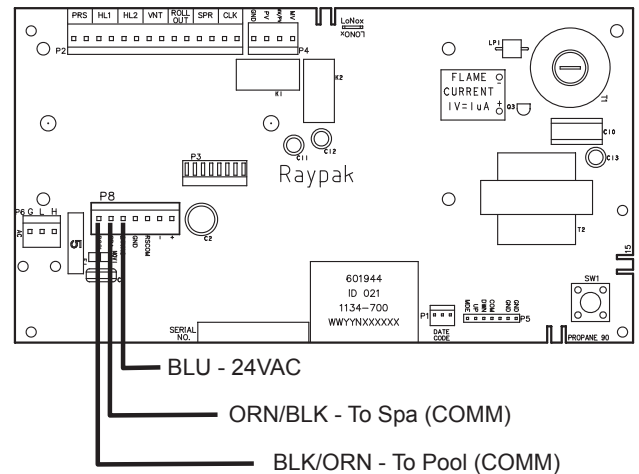

Figure 55. 3-Wire Remote Harness Installation on the P8 Connector of the Board
5. Install the “Remote Interface Harness” to the P8 connector and turn power ON to the heater. See **Figure 55**.